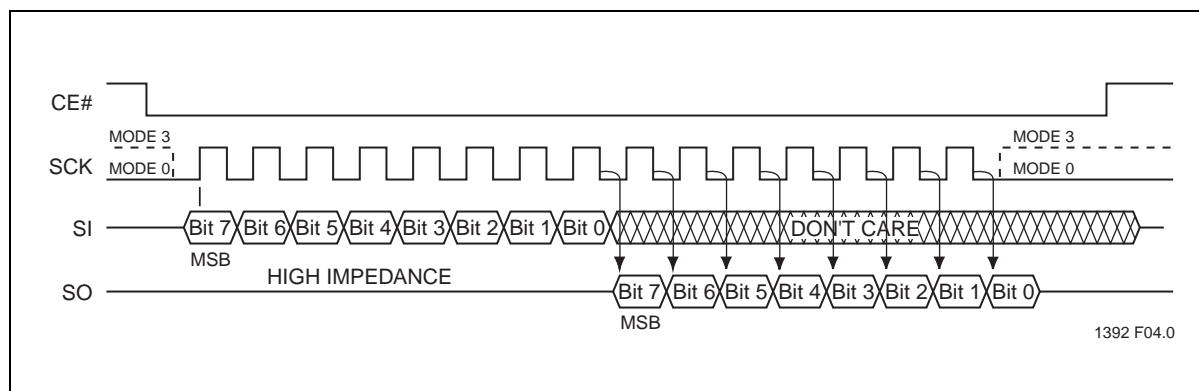

Figure 3: SPI Protocol
The SST25VF064C supports both Mode 0 (0,0) and Mode 3 (1,1) of SPI bus operations. The difference between the two modes, as shown in Figure 3, is the state of the SCK signal when the bus master is in Stand-by mode and no data is being transferred. The SCK signal is low for Mode 0 and SCK signal is high for Mode 3. For both modes, the Serial Data In (SI) is sampled at the rising edge of the SCK clock signal and the Serial Data Output (SO) is driven after the falling edge of the SCK clock signal.